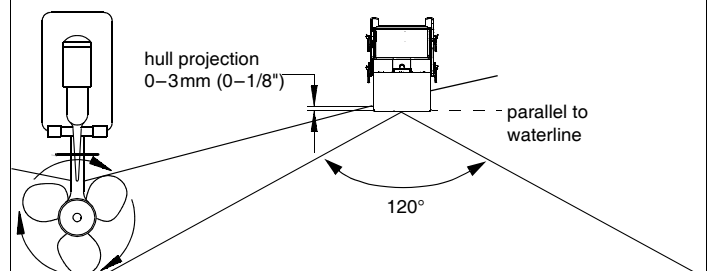
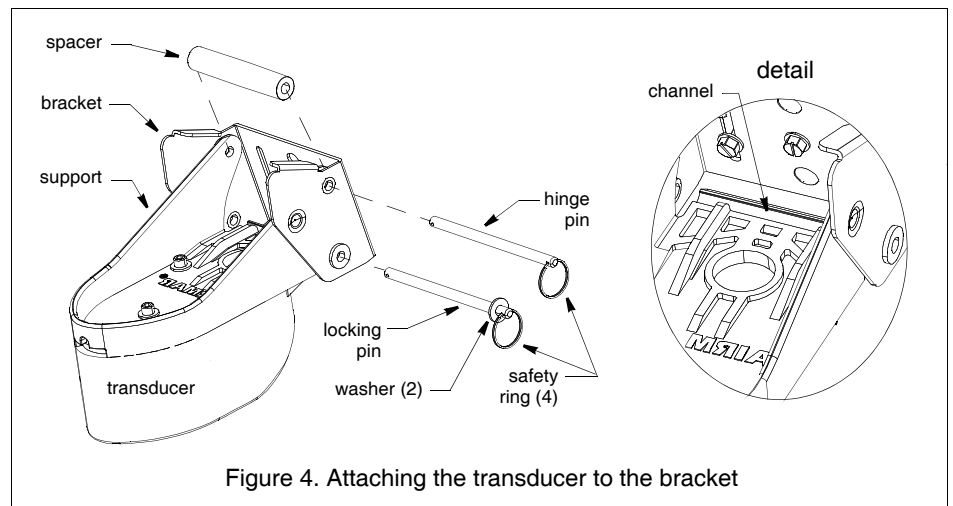
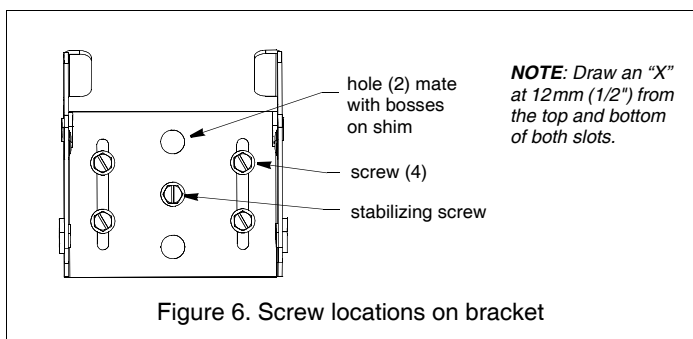

Figure 1. Mounting location on single drive boat
Figure 4. Attaching the transducer to the bracket
Figure 6. Screw locations on bracket
- Mounting the transducer on the side of the transom where the propeller blades are moving downward is preferred (Figure 1).
- **Single drive**—Mount a minimum of 15cm (6") beyond the swing radius of the propeller (Figure 1).
3. Attach a safety ring to one end of each pin (Figure 4).
1. At the selected mounting location, position the assembly so the transducer projects 3mm (1/8") below the bottom edge of the transom (Figure 1). Be sure any shim(s) is in place. (You may want to tape the shim(s) to the bracket temporarily.) With the transducer in the operational position and the bracket parallel to the waterline, mark the bottom corners of the bracket.
2. Remove the transducer assembly from the bracket by removing the locking pin and the hinge pin (Figure 4). Hold the bracket with any shim(s) in place against the transom at the marked location. Draw an "X" at 12mm (1/2") from the top and the bottom of each slot (Figure 6).
1. Apply marine sealant to the threads of four of the hex-washer-head screws to prevent water seepage into the transom. Being sure any shim(s) is in place, screw the bracket to the hull using a socket wrench (Figure 4). *Do not tighten the screws at this time.*
5. Using the vertical adjustment space in the bracket slots, slide the assembly up or down until the bottom inside corner of the transducer projections 0–3mm (0–1/8") below the bottom of the hull (Figure 1). When you are satisfied with the position of the transducer, tighten the four bracket screws. For clear access to the screws, remove the transducer assembly from the bracket (Figure 4). *When reattaching, be sure to include the spacer.*
- b. Move the transducer deeper into the water in increments of 3mm (1/8") (Figure 1).
1. Prevent the bracket from moving out of position using the remaining hex-washer-head screw. Drill the hole for the stabilizing screw through the center hole of the bracket, any shim(s), and the hull (Figure 6).
3. Fasten the stabilizing screw into place with a socket wrench. For clear access to the screw, remove the transducer assembly from the bracket (Figure 4). *When reattaching the transducer, be sure to include the spacer.*